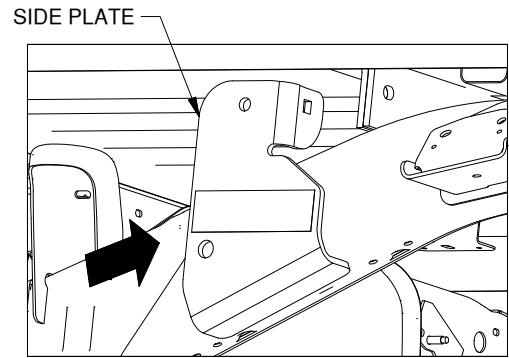

Figure F1: Looking in driver side wheel well.
- 3. Position side plate.** Place the driver side plate against the frame with the bent ear with the square hole facing inward on the cab side of the cross members, see Figure F1. The bottom flange of the side plate should face in and match the slope of the underside of the frame when installed properly.